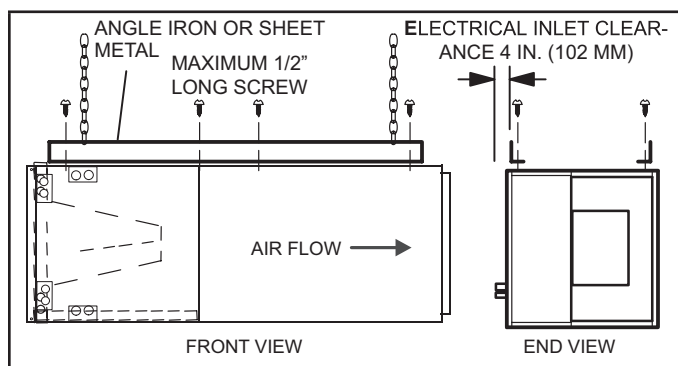

FIGURE 13. Suspend Horizontal Unit
- 13 - If suspending the unit, it must be supported along the entire length of the cabinet. If using chain or strap, use a piece of angle iron or sheet metal attached to the unit (either above or below) so that the full length of the cabinet is supported. Use securing screws no longer than 1/2" to avoid damage to coil or filter, as illustrated in figure 13. Connect return and supply air plenums as required using sheet metal screws.
- 5 - If the unit is suspended, the entire length of the cabinet must be supported. If you use a chain or strap, use a piece of angle iron or sheet metal attached to the unit (either above or below) to support the length of the cabinet. Use securing screws no longer than 1/2 inch to avoid damaging the coil or filter. See figure 13. Use sheet metal screws to connect the return and supply air plenums as required.